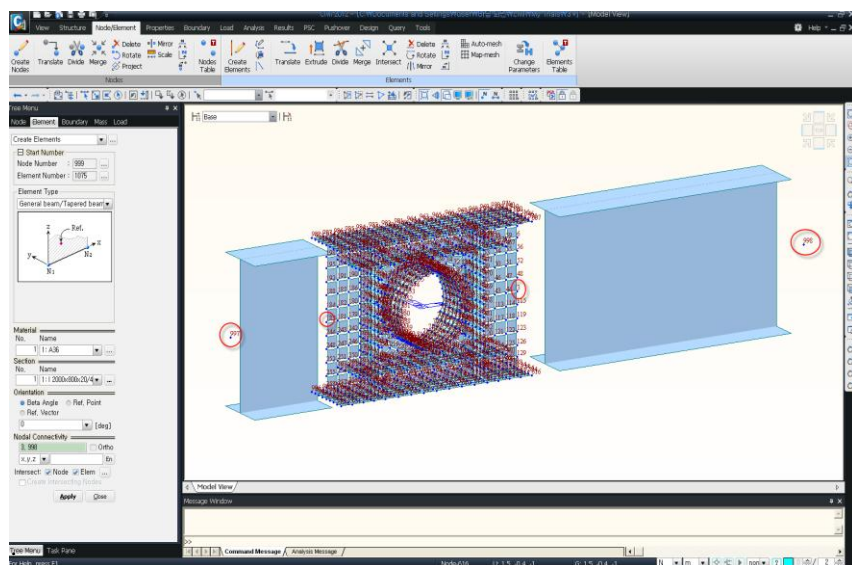

Figure 3.14 Creation of Beam Elements at Both Ends of the Opening Detail Model
16. Connect nodes **997** and **183** and nodes **3** and **998** (Fig.3.14) to create beam elements **1073** and **1074** respectively.